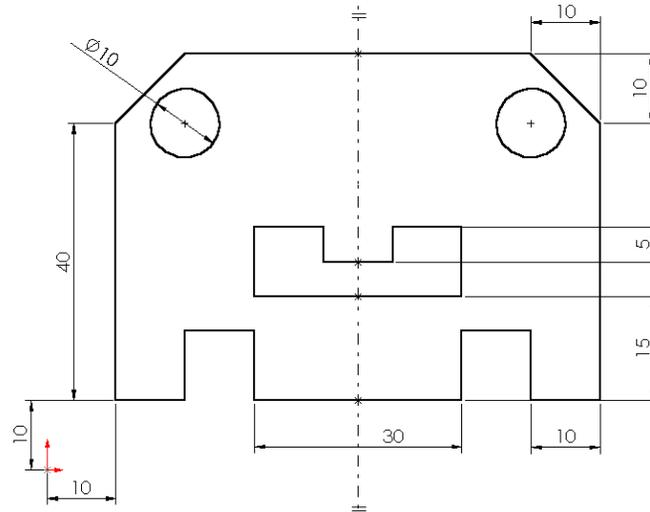

Figure 3-59 Fully defined sketch after applying all the required relations and dimensions
5. Move the cursor downwards and using the left mouse button, place the dimension below the line, refer to Figure 3-59.
11. Select the right inclined line. A dimension is attached to the cursor. Move the cursor vertically upwards to apply the horizontal dimension to the selected line. Using the left mouse button place the dimension at an appropriate place, see Figure 3-59.
left mouse button place the dimension at an appropriate place, see Figure 3-59.
Notice that all the entities are displayed in black. This suggests that the sketch is fully defined. If the sketch is not fully defined then you have to add a dimension between the outer right vertical line and the outer left vertical line. The value of the dimension should be maintained 70. The fully defined sketch, after applying all the required relations and dimensions, is shown in Figure 3-59.